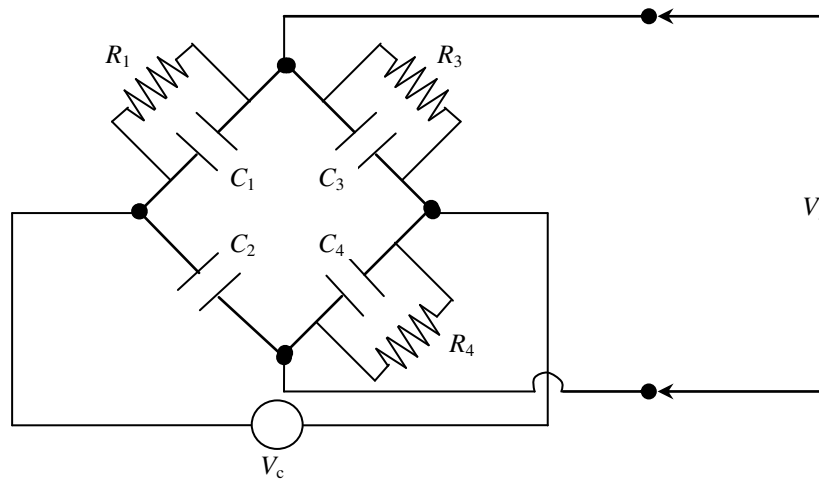

Fig. 2
4. A low-voltage Schering bridge shown in Fig. 2 is used to measure the unknown permittivity of a specimen using 2-plate capacitor, C_1 with area A and distance d .
Referring to Fig. 2, R_1 is a stray resistor, R_3 and R_4 are pure non-reactive resistors, and C_2 , C_3 and C_4 are pure non-reactive capacitors. Without the specimen the following balanced condition are attained: $C_3 = C_4 = 120 \text{ pF}$, $C_2 = 140 \text{ pF}$ and $R_3 = R_4 = 5000 \Omega$. With the specimen the values changed to $C_3 = 200 \text{ pF}$, $C_4 = 1000 \text{ pF}$, $C_2 = 900 \text{ pF}$, and $R_3 = R_4 = 500 \Omega$. If $V_c = 10 \text{ V (RMS)}$ and $\omega = 5000 \text{ rad/s}$, calculate the relative permittivity of the specimen.
(iii) Hence, modify Figure 2 so that the above filter has the Butterworth response such that $|H(j\omega_0)| = 1$ or 0 dB.